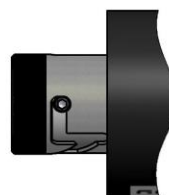

Figure. 8
4. Press the safety device and turn it clockwise to leave it in standstill or blocked position (see **Figure. 8**, page 12).
5. Press the safety device and turn it clockwise to leave it in blocked position (see **Figure. 8**, page 12).